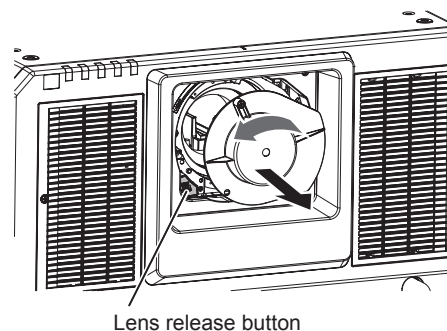

Fig. 2
**2) Remove the lens hole cover. (Fig. 2)**